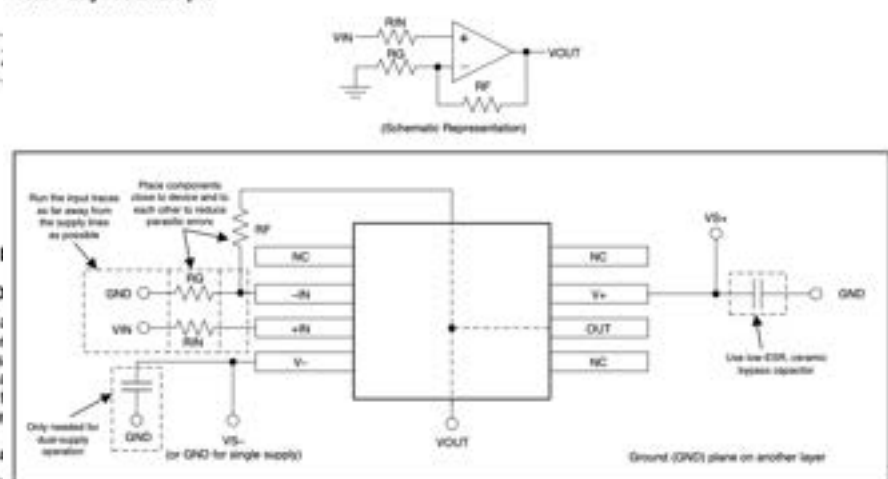

Figure 36. Operational Amplifier Board Layout for a Noninverting Configuration
- Place the external components as close to the device as possible. As shown in Figure 36, keeping RF and RG close to the inverting input minimizes parasitic capacitance.